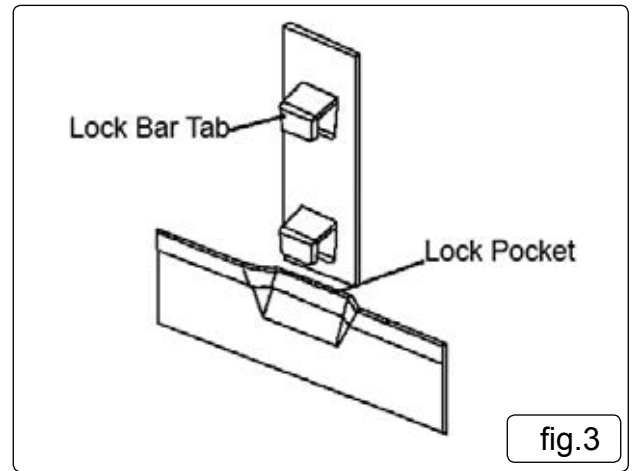

fig.3
- 4.2. If the lock bar tabs or pockets get damaged remove draws and with pliers or a screwdriver straighten fig.3.